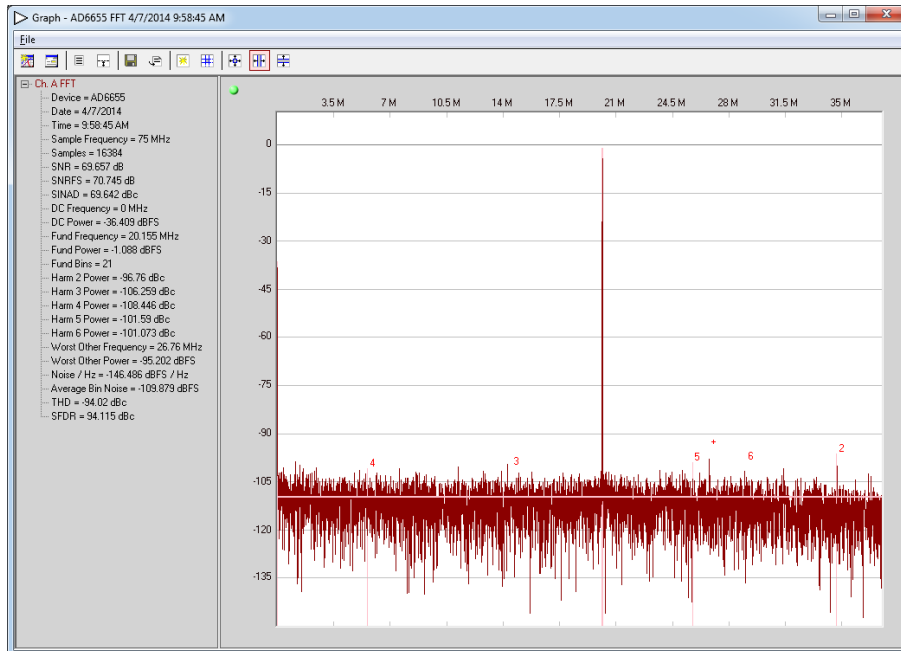

Figure 7. Example FFT from AD6655
13. Adjust the amplitude of the input signal so that the fundamental is at the desired level. (Examine the “Fund Power” reading in the left panel of the Visual Analog FFT window. – see Figure 7)